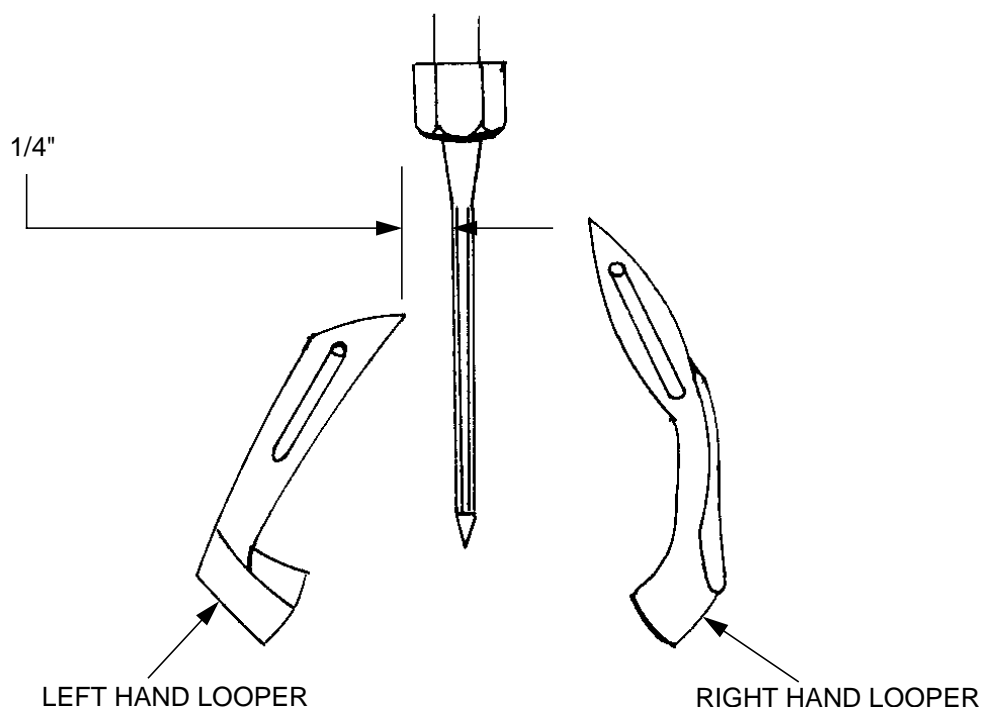

FIGURE 3 - LEFT HAND LOOPER POSITION
- 5.2.3.2 The left hand looper gauge shall be set to 1/4 inch. The looper gauge is set when the looper is at its farthest point of travel to the left (see Figure 3).